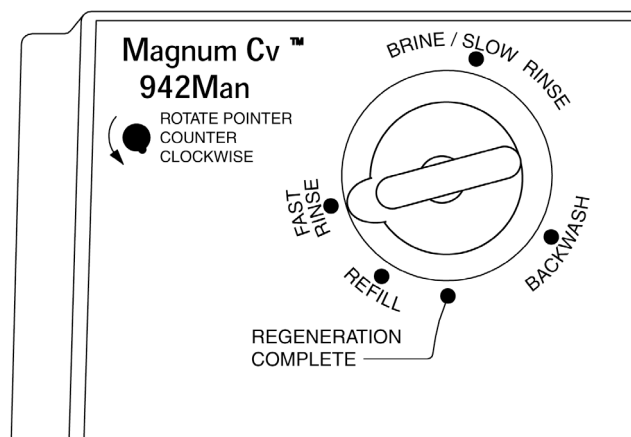

Figure 5.3
4. When the slow rinse is complete, move the indicator knob **COUNTERCLOCKWISE** to the center of the **Fast Rinse** position (Figure 5.3). The indicator knob should remain in the **Fast Rinse** position for the appropriate amount of time. Specific fast rinse times are determined by water quality, clarity of drain water, water pressure, and flow. Fast rinse serves to eliminate excess salt and repack the resin bed for the service run. Typically fast rinse should continue for 5 - 15 minutes*.